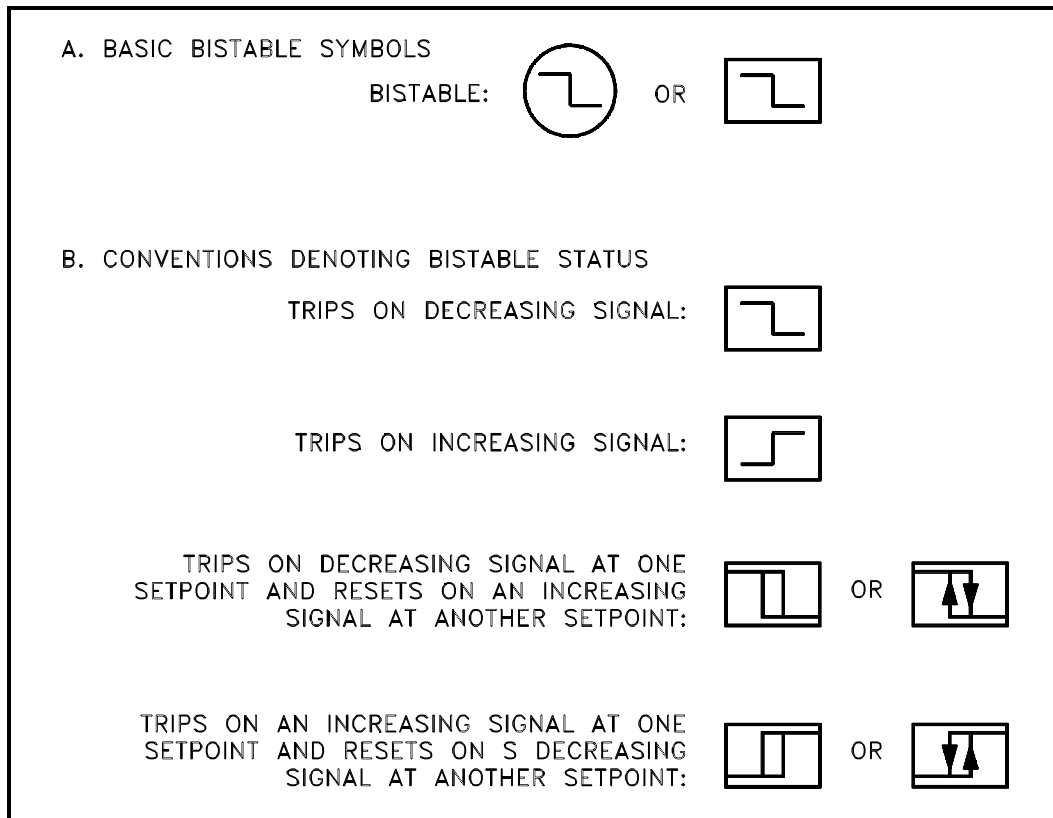

Figure 11 Bistable Symbols
An item that may cause confusion when reading electronic prints or schematics is the markings used to show bistable operation. In most cases, bistables will be indicated by a box or circle, as shown in Figure 11 (A). The lines in or around these bistables not only mark them as bistables, but also indicate how they function.
Figure 11 (B) shows the various conventions used to indicate bistable operation. Commonly, one circuit will interface with other circuits, which requires a method that allows the reader to follow one wire or signal path from the first drawing to the second. This may be done in many ways, but generally the line or conductor to be continued will end at a terminal board. This board will be labeled and numbered with the continuation drawing indicated (a separate drawing may exist for each line). With the next drawing in hand, only the terminal board that matches the previous number needs to be found to continue. In cases where terminal boards are not used, the conductor should end with a number (usually a single digit) and also the next drawing number. To assist in locating the continuation, coordinates are provided on some drawings that indicate the location of the continuation on the second drawing. The continuation point on the second drawing will also reference back to the first drawing and the coordinates of the continuation.